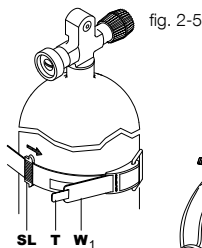
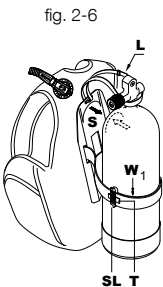

fig. 2-5
fig. 2-6
2. If the BC has a hard backplate, place the cavity (S) of the backplate on the shoulder of the tank (Fig. 2-6) and then fasten the strap (Fig. 2-5 and 2-7) of the quick-release belt (W1) around the tank.
3. Close the buckle (C) (Fig. 2 – 7). If the strap is too tight or too loose, open the Velcro and the buckle to readjust the length of the strap (Fig. 2-5) of the quick-release belt (W1). For added safety, slide the loop (SL) (Fig. 2-5) around the strap end (T). In BCs with a hard backplate, with the tank mounted to the BC you can lift the entire unit using the handle integrated into the backplate.